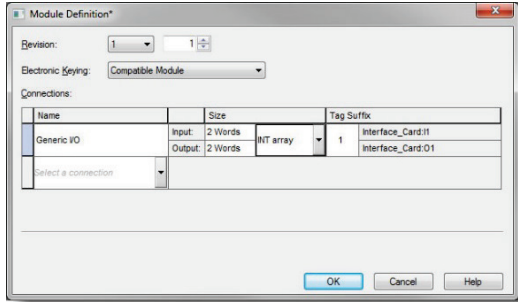

Figure 50: AOP Generic I/O Module Definition
- 3) Configure the Generic I/O connection. Refer to Figure 50.